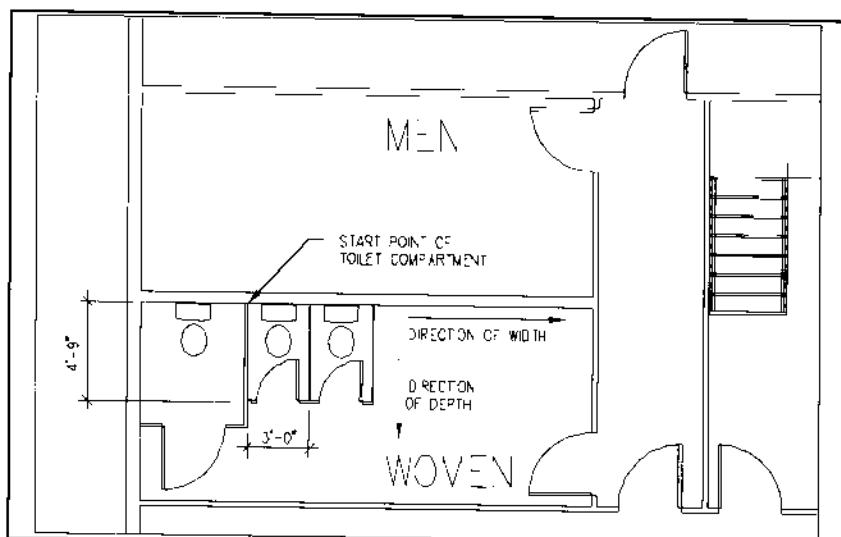

Figure 74.
2. Insert 2 additional toilet stalls, each 3' wide and 4'-9" deep with 2' wide doors as shown in Figure 74.
- > Pick start point of toilet compartment: INT of **[top left corner of women's toilet stall as shown in Figure 74]**